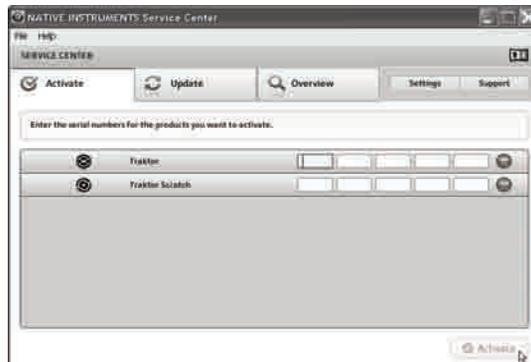

Figure 4.26
5. Enter the serial number from the enclosed Traktor LE Serial Number Card and click **Activate**. (Figure 4.26)